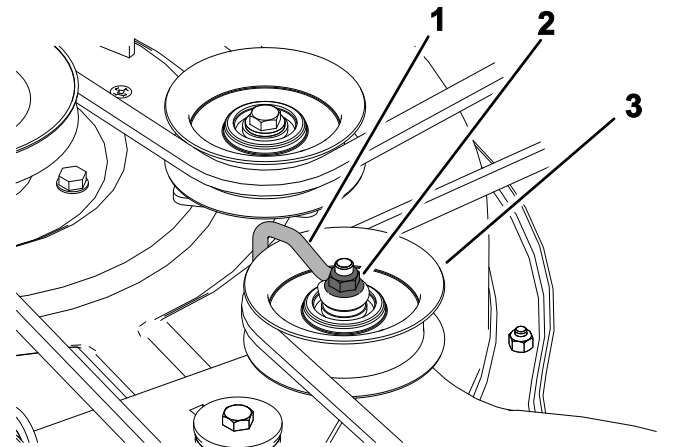

Figure 51
5. For stamped decks, loosen the nut securing the wire form to the idler pulley (Figure 51).
9. For stamped decks, tighten the nut securing the wire form to the idler pulley (Figure 51).
Note: Position the wireform against the idler arm as shown in Figure 51.